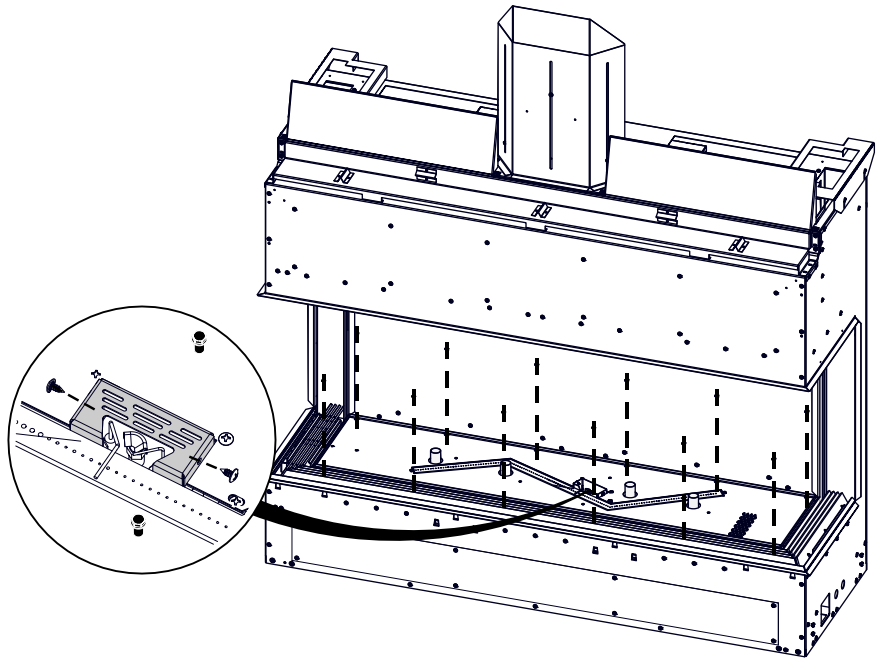

Fig. 1
3. Remove the pilot cap by uninstalling 2 screws (**Fig.1.**).
4. Remove the 12 screws securing the media tray (**Fig. 1.**).